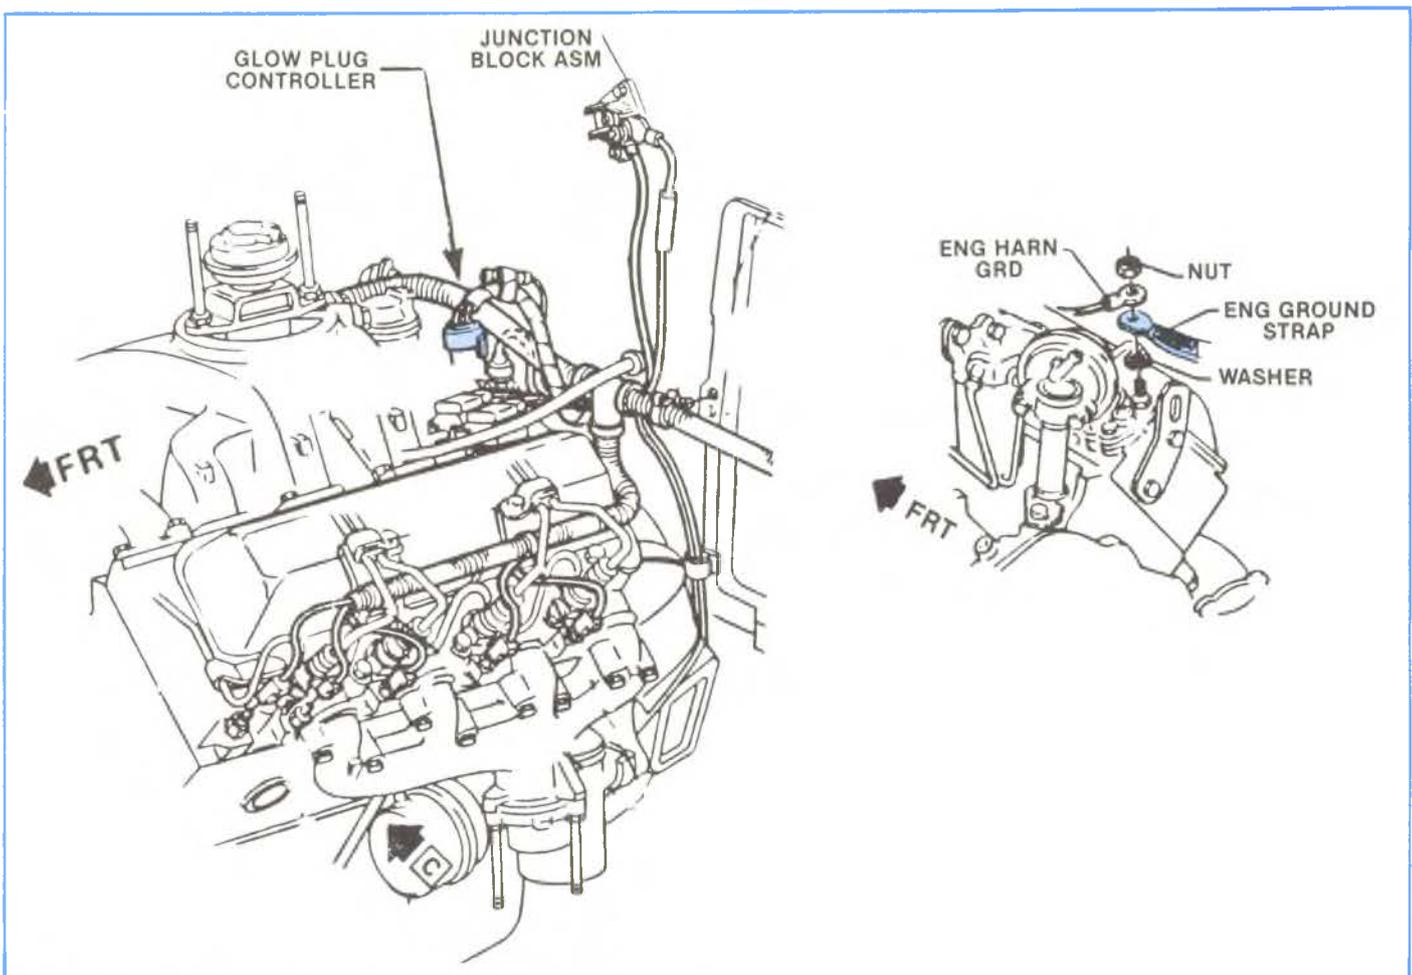

Figure 6-19, Glow Plug Controller Contamination.
The two (2) wires from No. 5 and No. 6 pin position are ground wires. The ground connection is at the rear of the right hand head on a stud which also grounds the body ground strap. (The stud is on the opposite side of the engine from the controller.) Make sure the ground connection is secure (Figure 6-19).